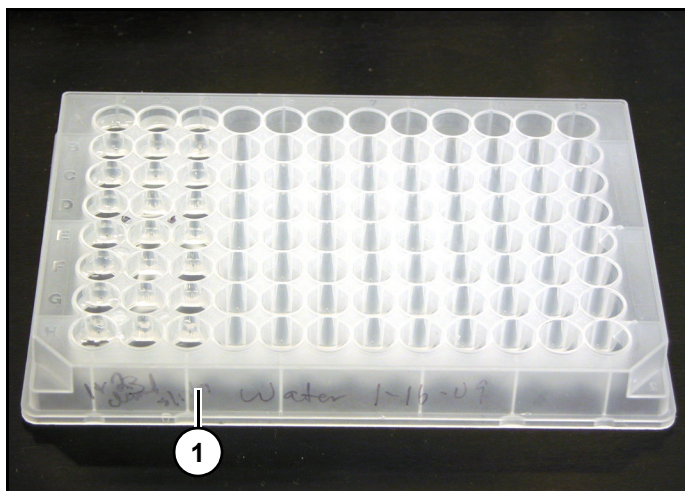

Figure 37
4. Prepare source plate (1) (Figure 37) with desired liquid at required volumes.